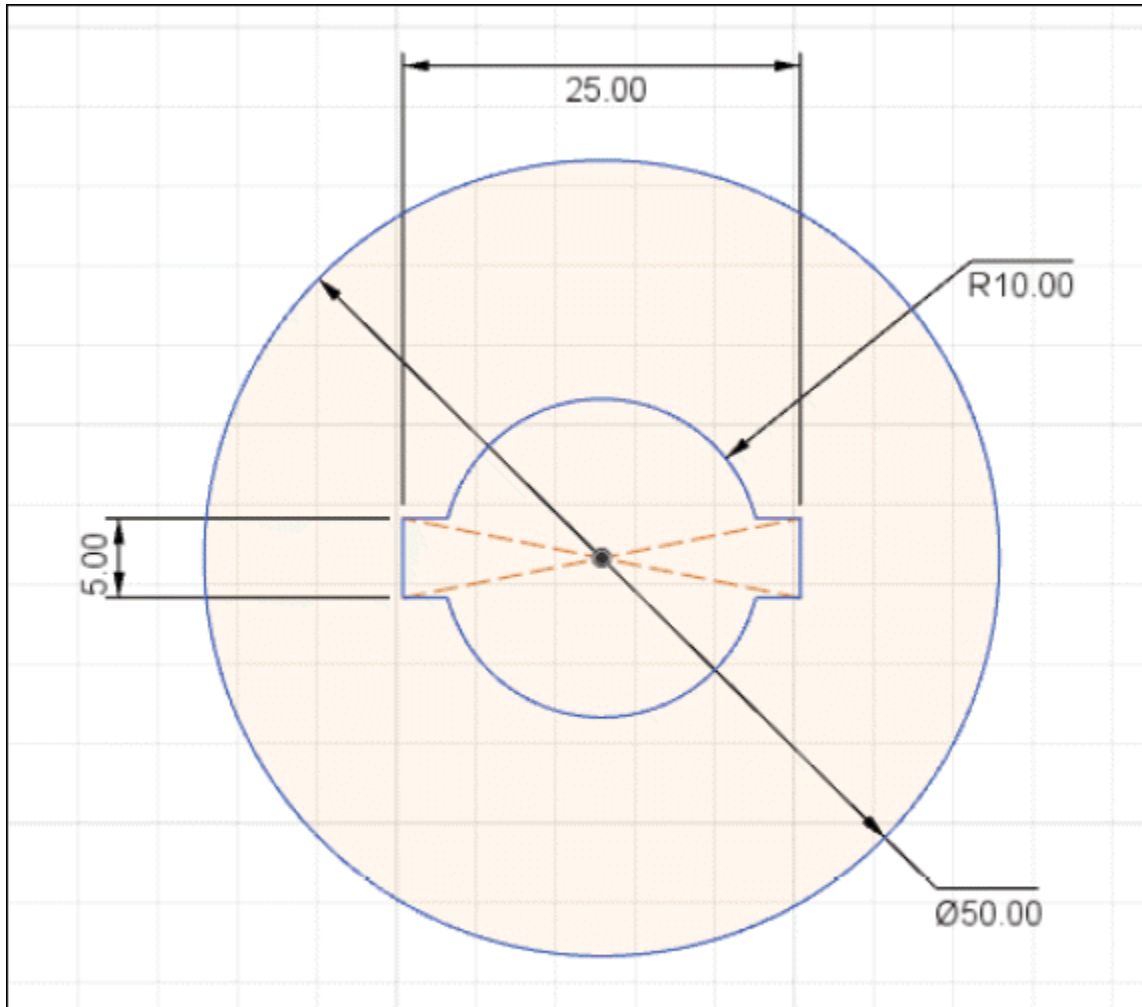

Figure-5. Sketch after trimming
- Select **Trim** tool of **MODIFY** drop-down from **Toolbar** and trim the entities in such a way that the sketch is displayed as shown in Figure-5.